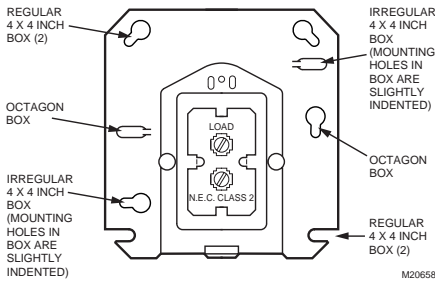

Fig. 8. Location of mounting holes.
- c. Vertical channel mounting. Place frame over laminations as shown in Fig. 8 and bend tabs over to hold transformer securely in place. Mount transformer through 3/16 in. (5 mm) holes in mounting feet.